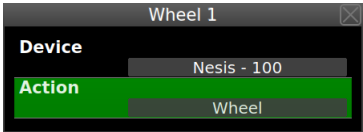

Figure 75: Joyu wheel movement was assigned to Nesis with serial number 100. Action in this case is knob rotate action, which equals to wheel.
4. Rotate a wheel. Same window appears, but with less options. Figure 75 illustrates an example.